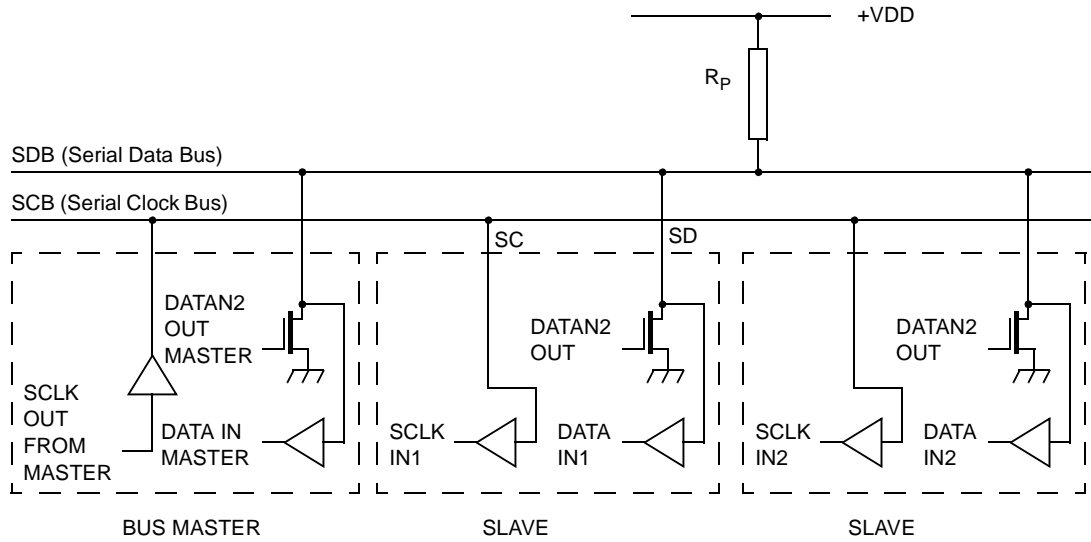

Figure 19: Connection of Devices to the Bus
The CH7003 contains a standard serial control port, through which the control registers can be written and read. This port is comprised of a two-wire serial interface, pins SD (bi-directional) and SC, which can be connected directly to the SDB and SCB buses as shown in **Figure 19**.
The Serial Clock line (SC) is input only and is driven by the output buffer of the master device (also shown in **Figure 19**). The CH7003 acts as a slave, and generation of clock signals on the bus is always the responsibility of the master device. When the bus is free, both lines are HIGH. The output stages of devices connected to the bus must have an open-drain or open-collector to perform the wired-AND function. Data on the bus can be transferred up to 400 kbit/s.
The electrical specifications of the bus devices’ inputs and outputs and the characteristics of the bus lines connected to them are shown in **Figure 19**. A pull-up resistor (R_p) must be connected to a $5V \pm 10\%$ supply. The CH7003 is a device with input levels related to V_{DD} .